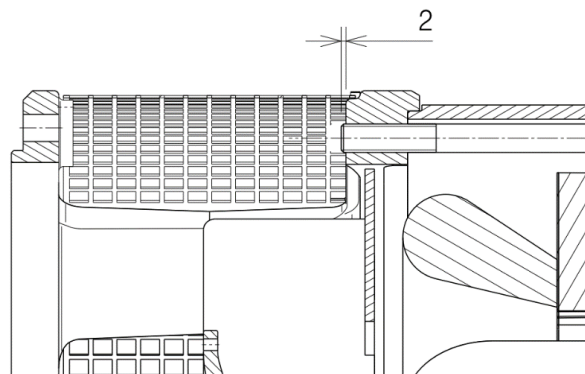

Fig.9
2. Insert the tie rod and screw it so that it protrudes 2 mm from the nut thread. Fig.9